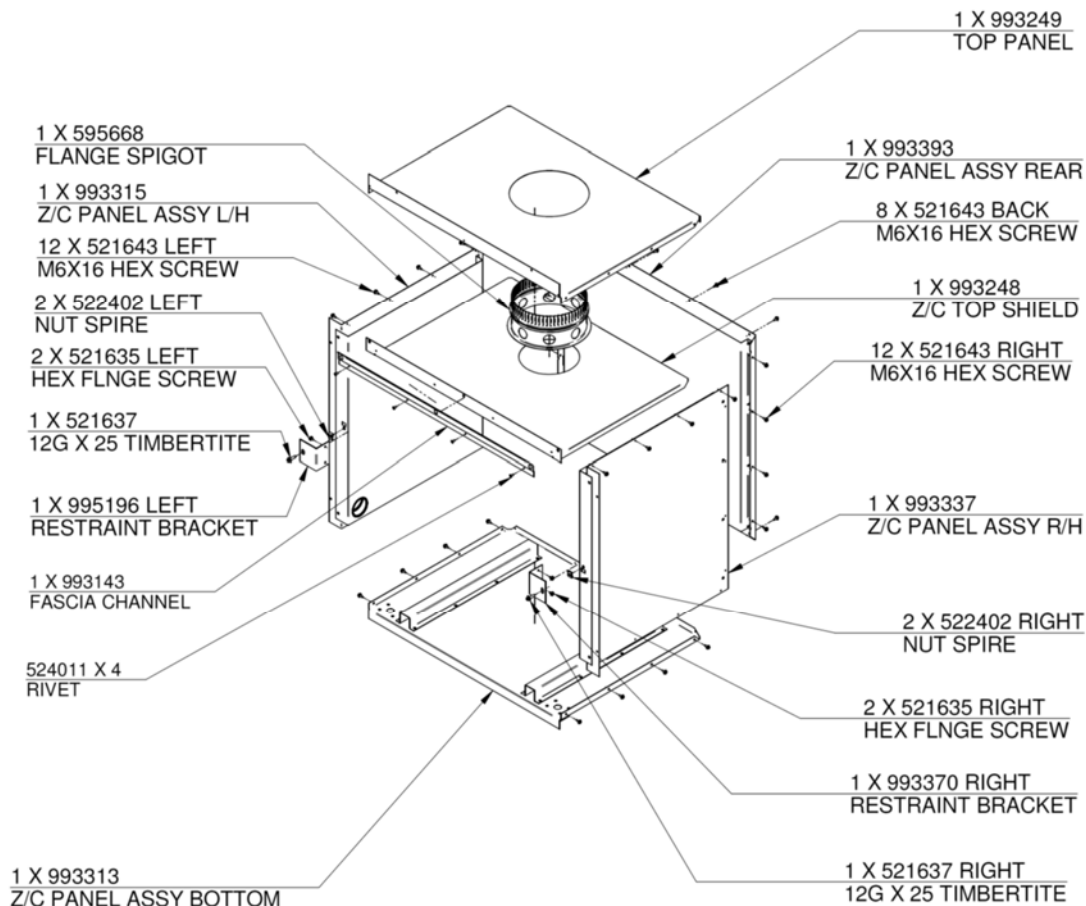

Fig. 6
14. Assemble the base, sides, back and top panel of the shielding box (see Fig. 6).